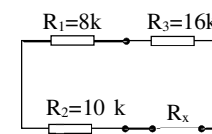

Fig. 9
11. Establish the diagonal in which the voltmeter should be connected to maximize the sensitivity of the bridge from Fig. 9. Compute the ratio A and the sensitivity, after this choice.